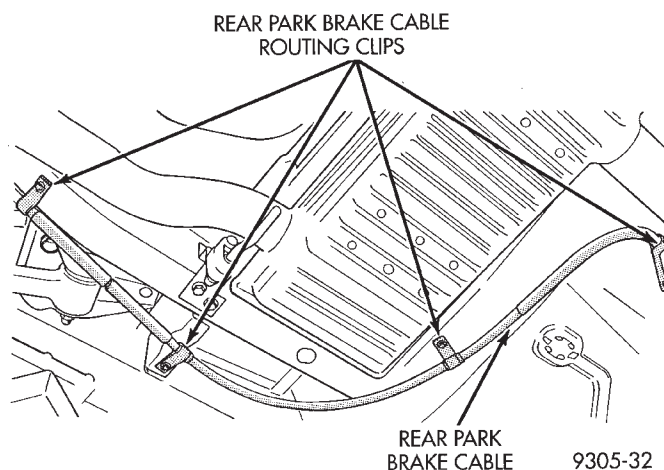

Fig. 3 Park Brake Cable Routing Clip Locations
(6) Remove the 4 routing clips attaching rear park brake cable to floor pan and frame of vehicle (Fig. 3).